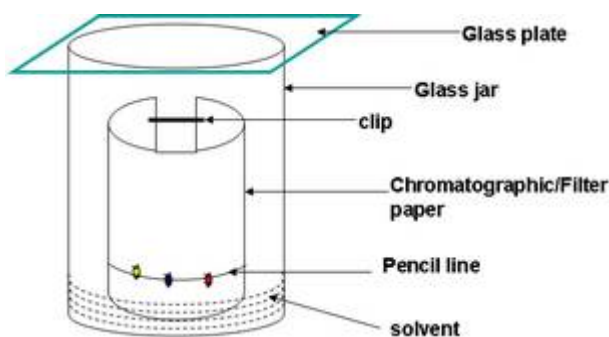

Fig. 3
- Carefully open the glass jar and lower the paper into it so that the solvent touches the bottom of the paper as shown in Fig. 3